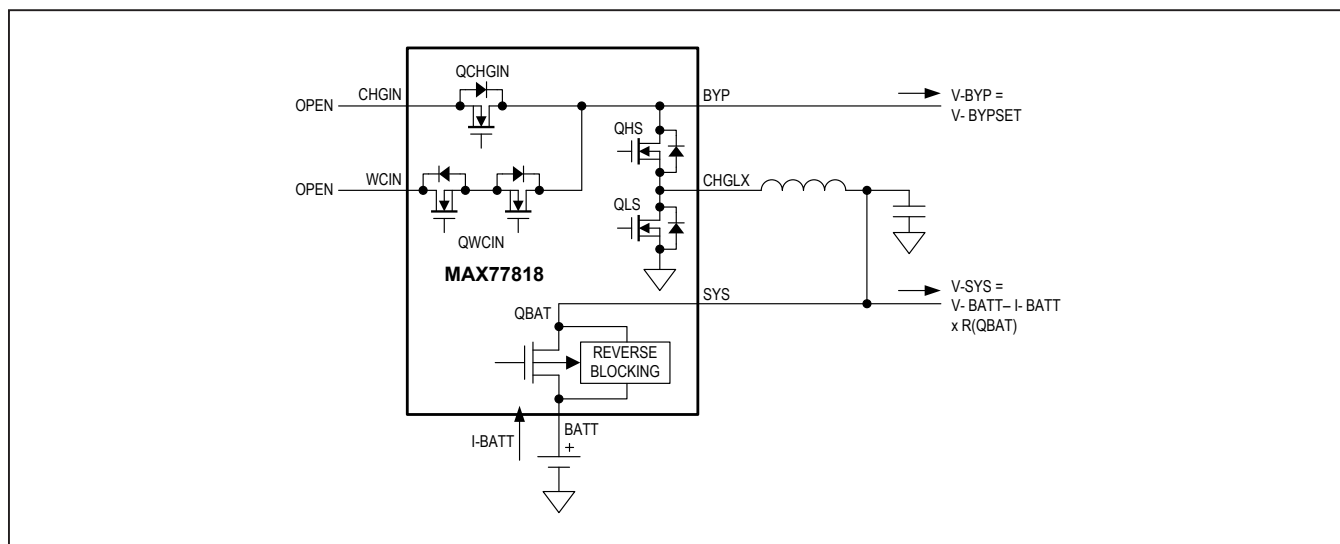

Figure 11. Battery-Boost
**Battery Boost, MODE = 0x08:** Adapter and wireless inputs are invalid, outside the input voltage operating range ( $QCHGIN = \text{off}$ ,  $QWCIN = \text{off}$ ). Battery is connected to power the SYS load ( $QBAT = \text{on}$ ), and charger is operating in Boost mode ( $\text{Boost} = \text{on}$ ). See Figure 11.